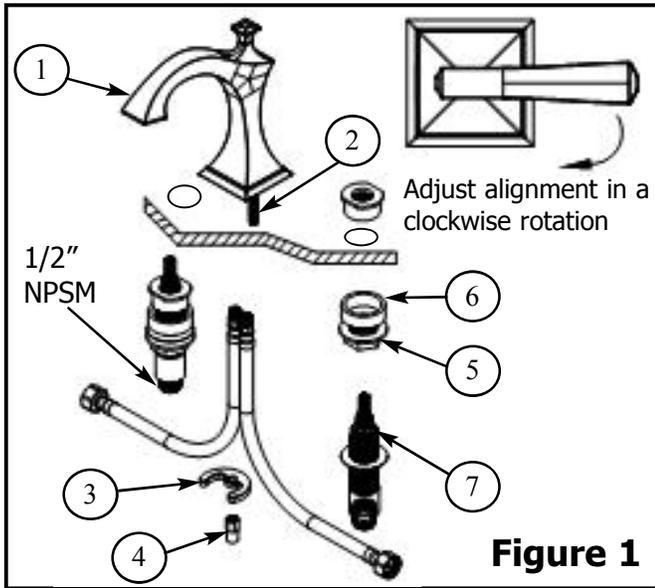
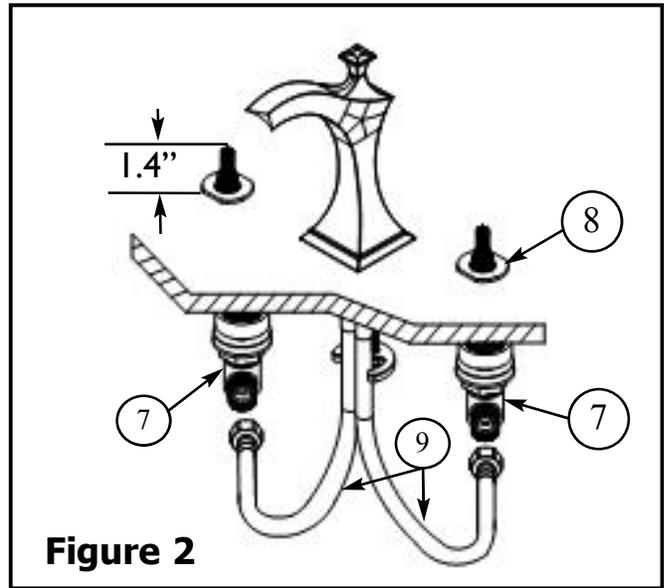

Figure 1
Figure 2
1. Place the SPOUT (1) hoses, one at a time, and threaded ROD (2) through center hole of mounting surface. Secure SPOUT (1) into place with BRACKET (3) and NUT (4). See Figure 1.
2. Place flange NUT (6) and SPACER (5) on valve BODY (7). Insert valve BODY (7) through the hole in the mounting surface. Adjust and secure with INVERTED NUT(8) so that the top of VALVE (7) is 1.4" above the top of mounting surface. Before tightening INVERTED NUT (8), check alignment of handle. Any adjustments for rotational alignment must be made to the valve BODY (7), not to the cartridge. See Figure 1& Figure 2.
3. Connect the loose end of flexible HOSE (9) to side outlet of valve BODY (7). (Hand-tighten and secure each connection with a wrench $1/4$ turn.) Repeat on other side. See Figure 2.